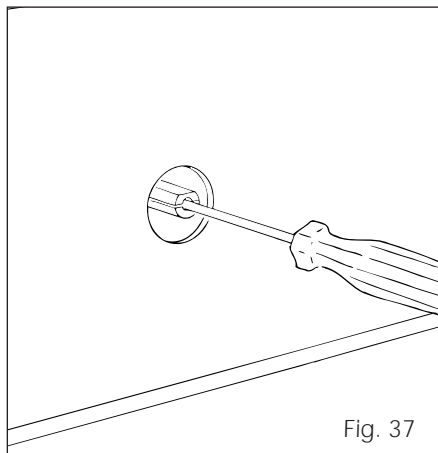

Fig. 37
- With a small flat screwdriver turn the screw inside the tap rod to the correct regulation (fig. 37).